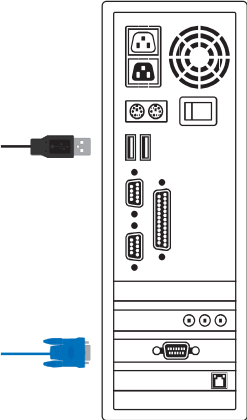

Figure 9 - USB and VGA Setup
C. Connect only USB and VGA connectors to your computer (Figure 9).